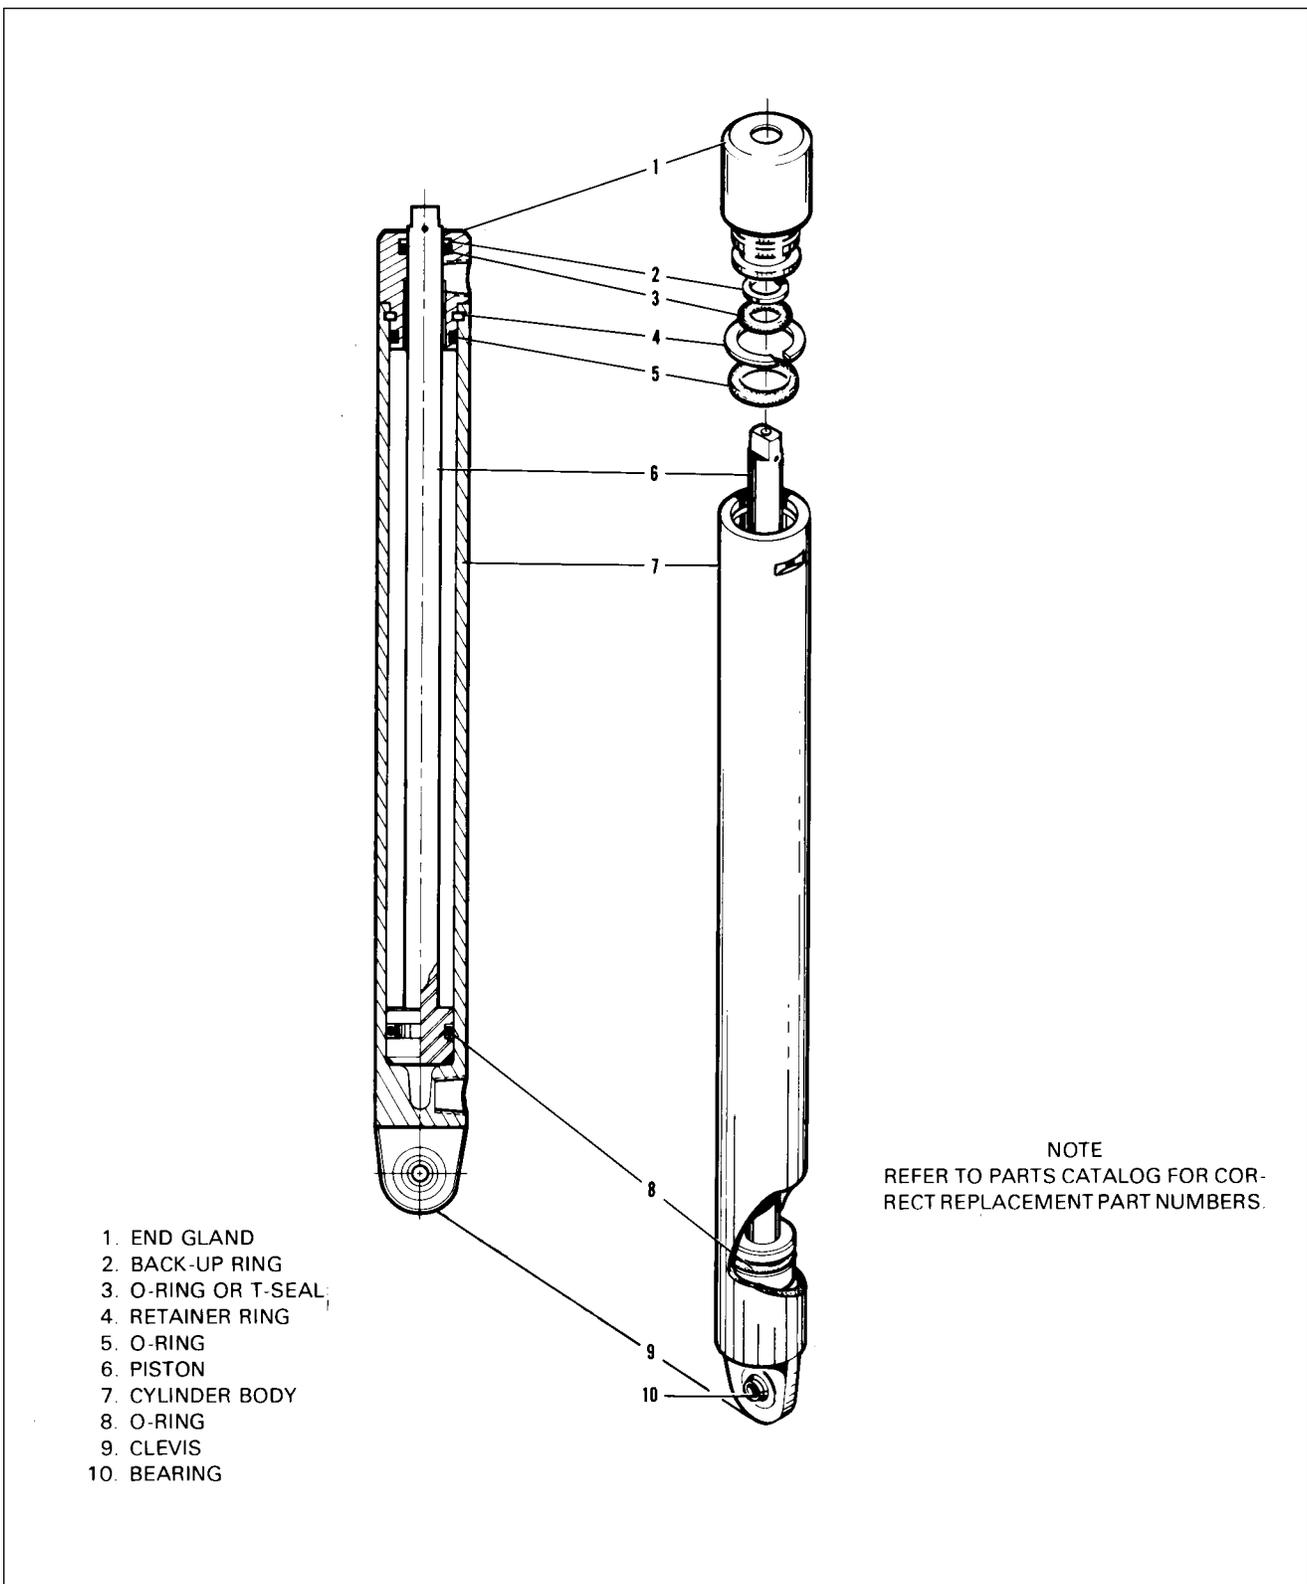

Figure 29-11. Main Gear Actuating Cylinder
**DISASSEMBLY OF MAIN GEAR ACTUATING CYLINDER.** (Refer to Figure 29-11.)
**ASSEMBLY OF MAIN GEAR ACTUATING CYLINDER.** (Refer to Figure 29-11.)